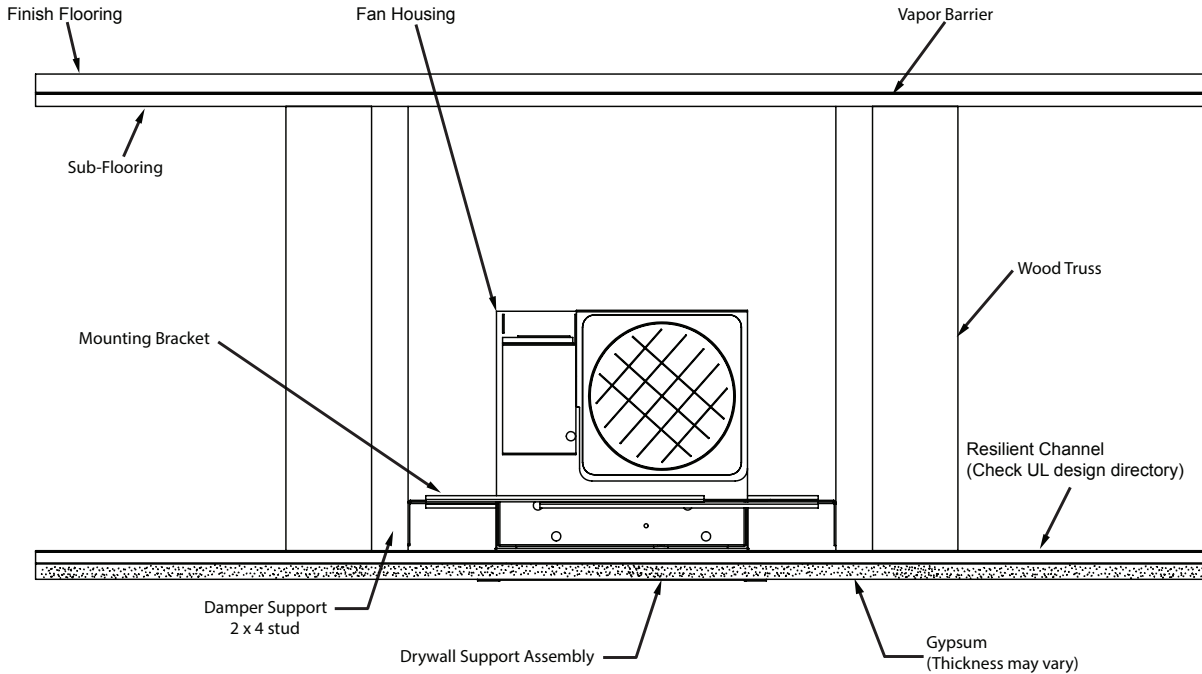

Figure 1
3. Prior to installing the damper/fan, damper supports need to be installed in the ceiling assembly (See Figure 1 and Figure 5). Four damper supports made from 2x4's cut to the truss height need to be installed, centered around the damper/fan location. The damper supports need to be spaced 11-9/16" (294) on center. The bottom of the damper supports must be flush with the bottom of